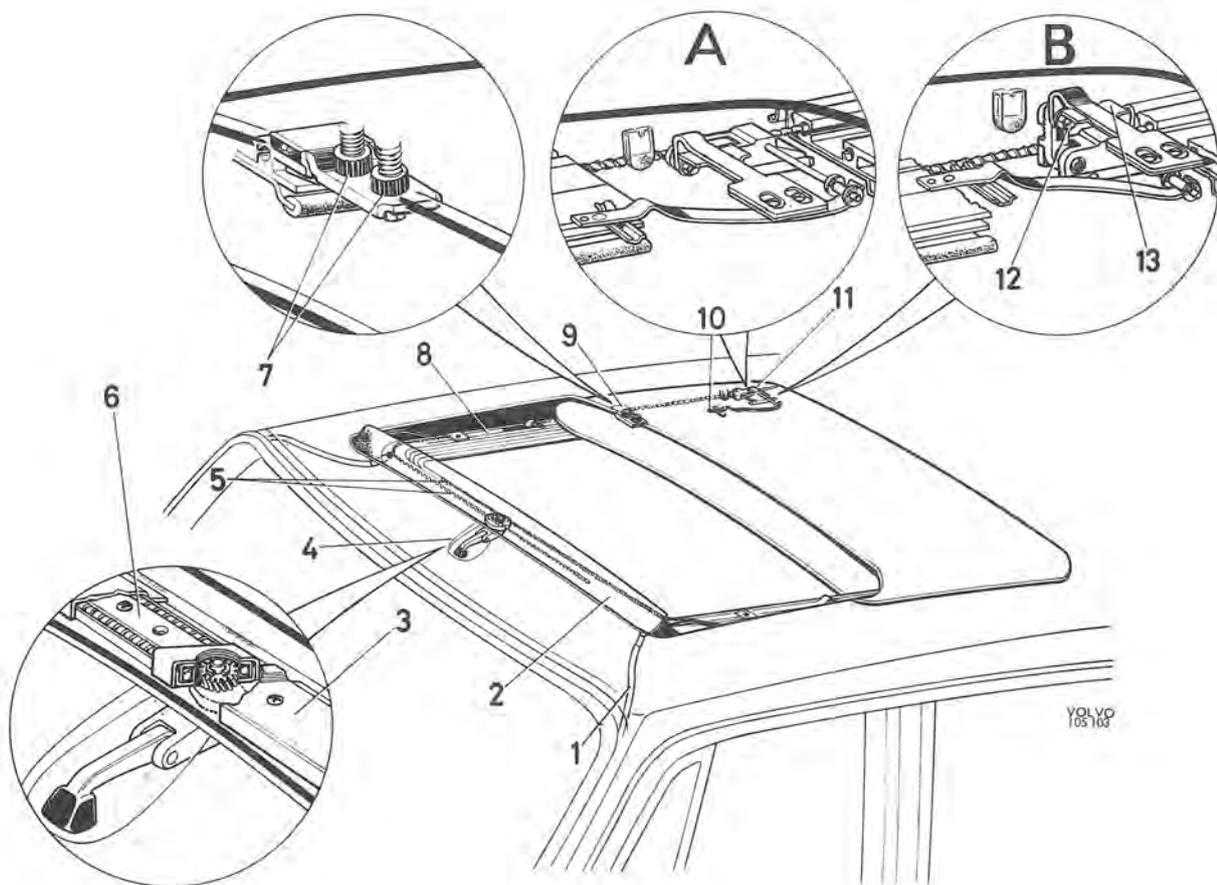

Fig. 8-20. Sun roof
2. Crank the sun-roof forwards and slacken the screws at its four attachments (9 and 11, Fig. 8-20). Bend the blade springs (10) to the one side and remove the reinforcing plates (13) at the rear attachments. Lift off the sun-roof.
3. Remove the wind deflector (2).
4. Remove the intermediate pieces (8), covering strip (3) and holders above the drive. Release the front guide rails (6) and pull out the cables (5).